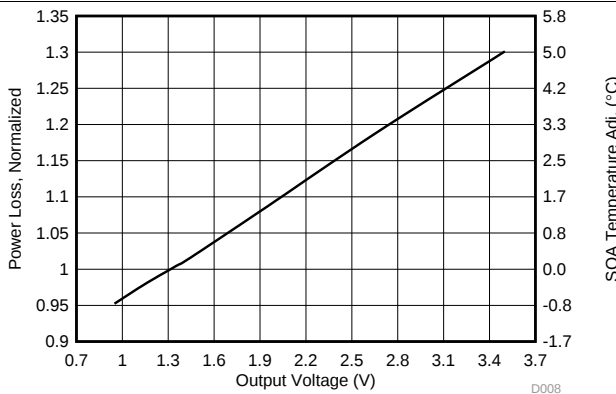

Figure 7. Normalized Power Loss vs Output Voltage
- Normalized power loss for output voltage ≈ 1.01 (Figure 7)
- SOA adjustment for output voltage $\approx 0.17^{\circ}\text{C}$ (Figure 7)